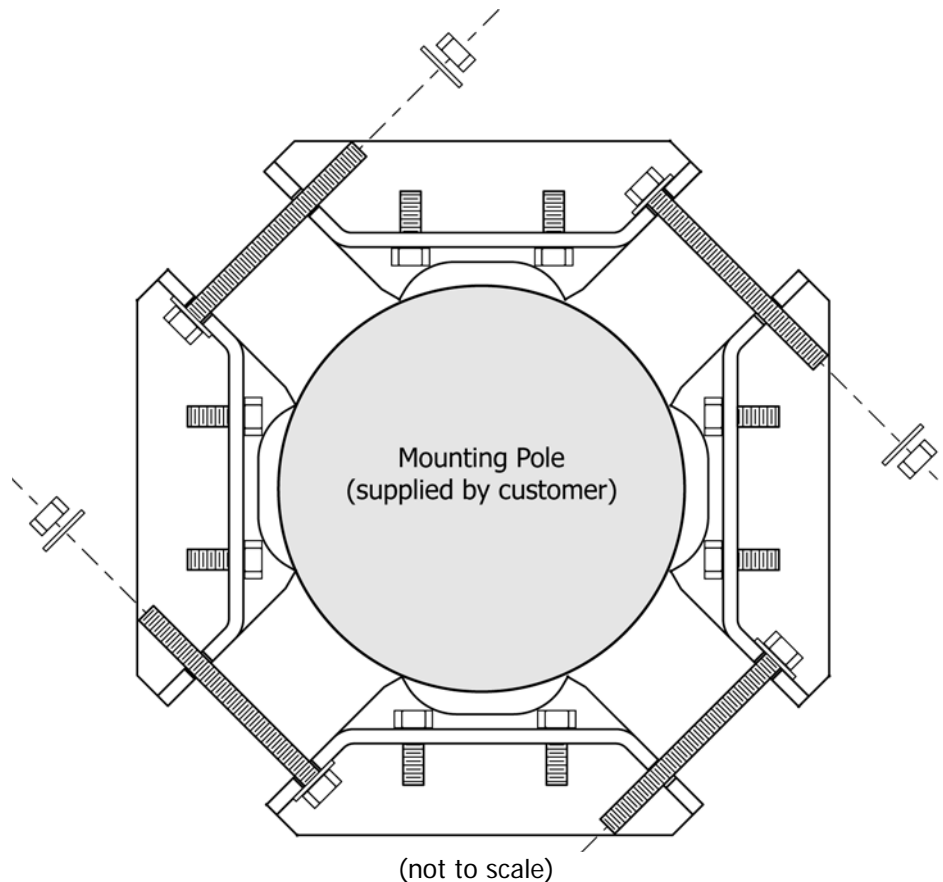

Figure 1. Typical Mount Installation on Pole, top view
Figure 1 is a top view showing how the radiator mount pieces fit together. Assemble and install the radiator mounts according to Figure 1, your installation drawing, and the following guidelines:
- c. Install the mounts as shown in Figure 1 and your installation drawing.